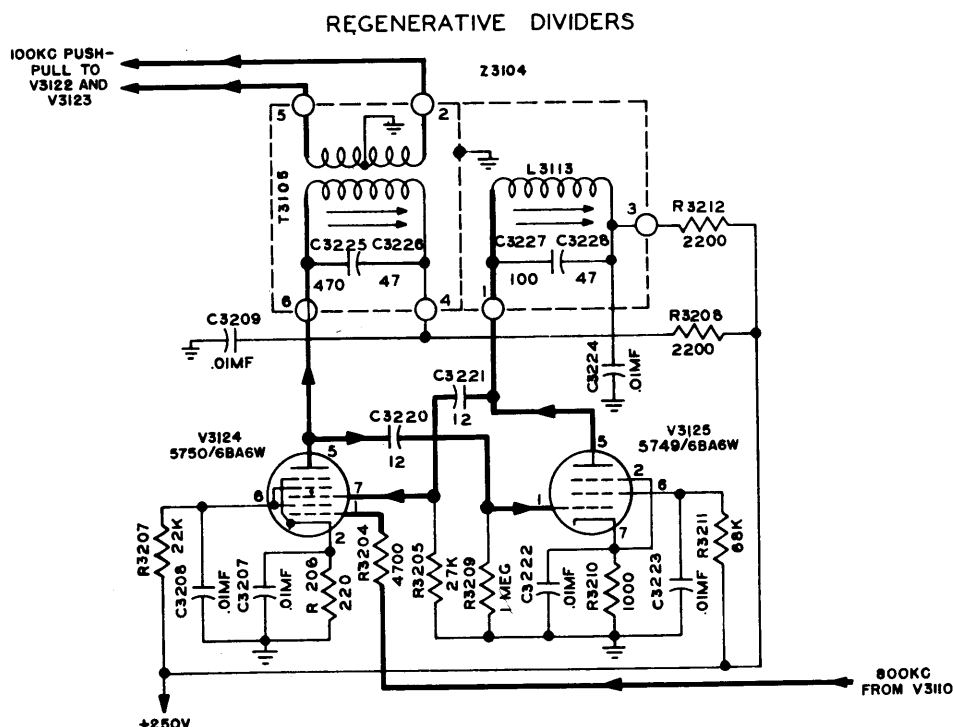

Figure 2-43. Reg n rativ Divid rs, Simplifi d Sch matic
(12) REGENERATIVE DIVIDERS AND AGC (see figure 2-43).—JAN 5750/6BE6W miniature pentagrid converter tube (V3124) is used in conjunction with a JAN 5749/6BA6W miniature pentode (V3125) in a regenerative divider circuit wherein the 800-kc output signal from the second i-f strip is effectively divided by 8. Essentially the circuit is composed of a mixer stage